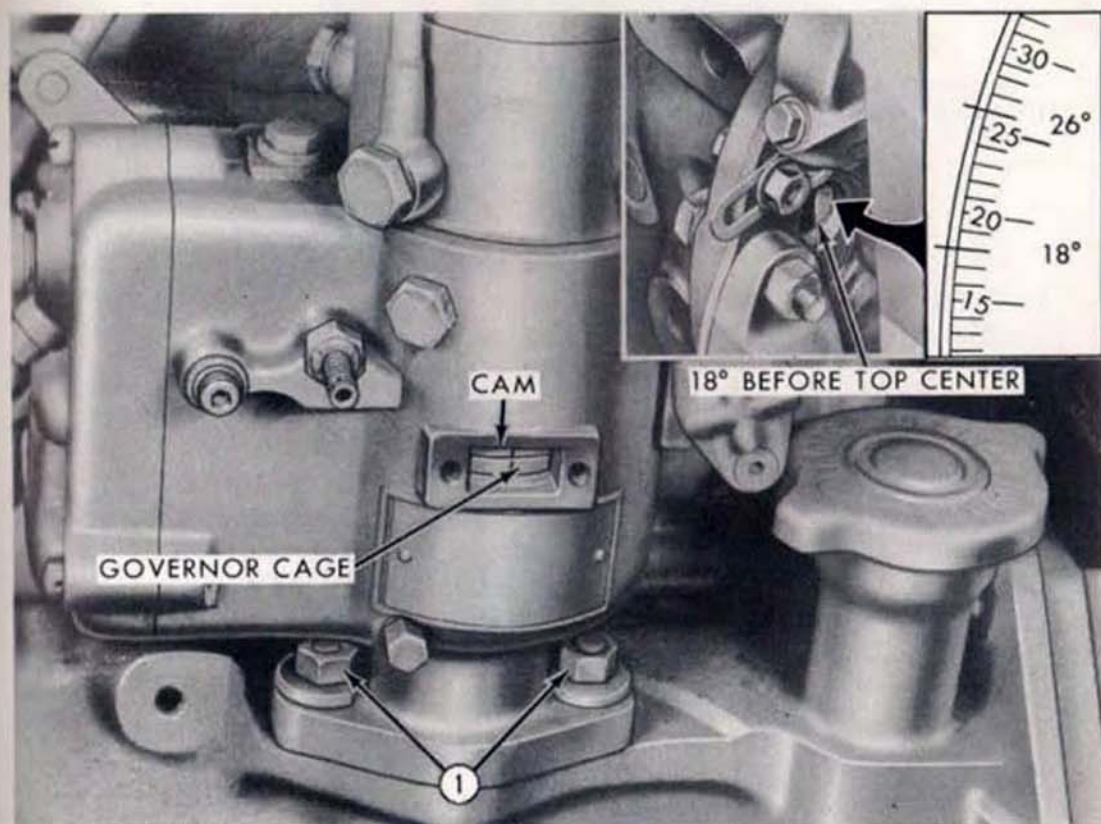

Figure 31
the backlash is removed from the pump drive. Loosen the pump housing at (1), Figure 31, and rotate the pump assembly until the timing marks align. Re-tighten the pump assembly nuts. Check the timing by rotating the engine until the alignment marks again align. If the proper timing has not been obtained, repeat the process.